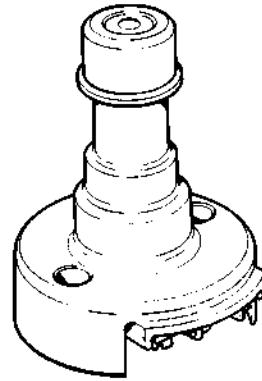

**FIG. 8. LOCATION OF PLUGS AND SOCKETS AND MICRO SWITCH**
**Plug and Socket 5- and 7-pin, Fig. 8**
**Micro-switch—Start Inhibit, Fig. 8**